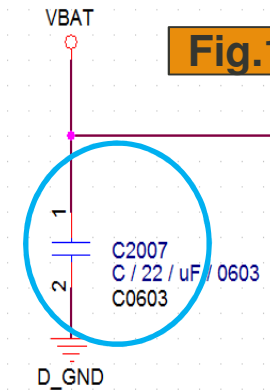

Fig.1
- 22uF capacitor (C2007) is placed near MT6328 VSYS input balls (Fig.1).